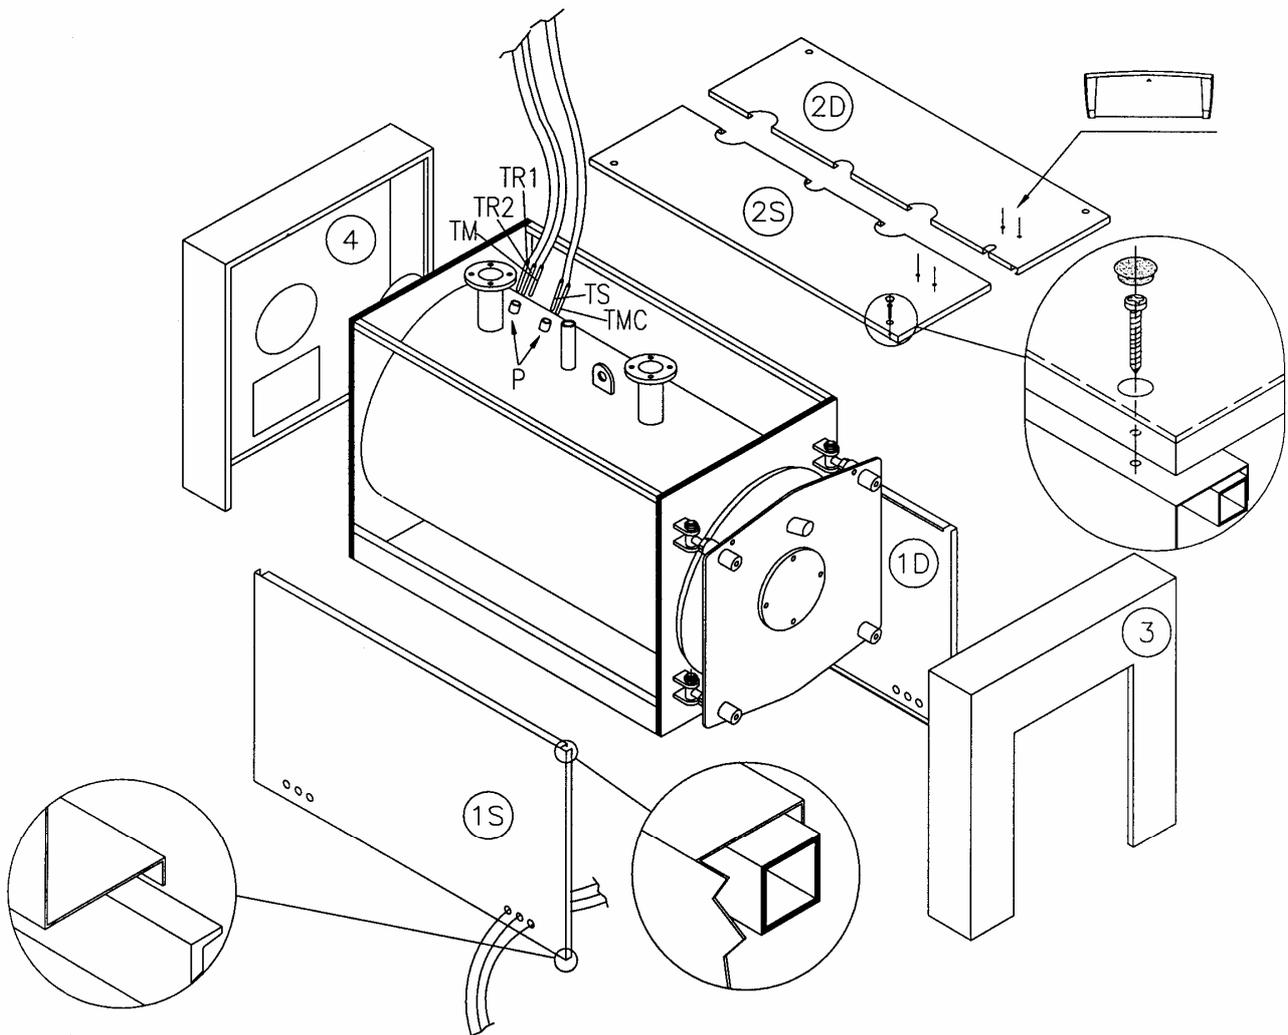

Fig. 8
4.2 REX 7÷40/REX K 25÷40 BOILER CASINGS (Fig. 8)
- a) Wrap the glass wool around the boiler body leaving the bulb well (P) on the right side exposed.